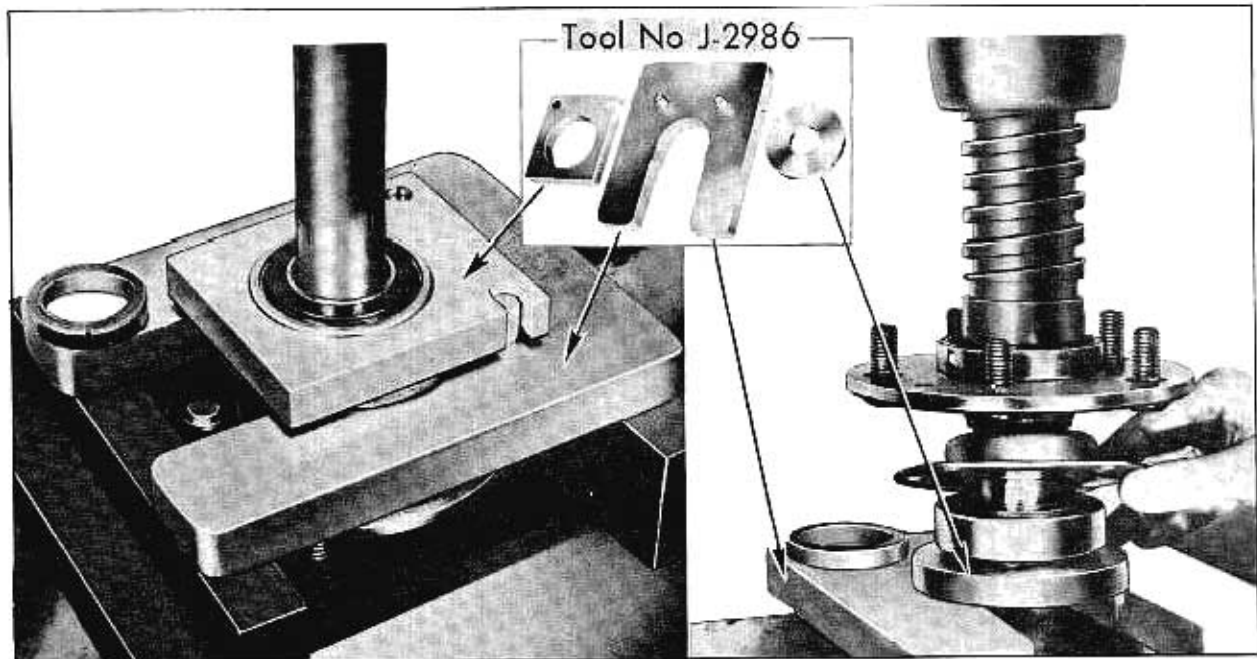

Fig. 8-9 Removing and Installing Rear Axle Shaft Bearing
bly to the "U" shaped piece of Rear Axle Bearing Remover and Replacer, Tool No. J-2986, and place on an arbor press. Fig. 8-9.
2. Place assembly through ring of installer tool on arbor press. Fig. 8-9.
3. Press bearing on shaft up to, but not quite touching shoulder. Fig. 8-9.